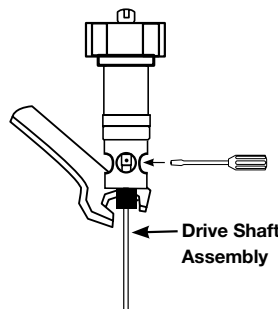

Figure 12
8. Insert a small screwdriver (or similar object) through the small hole on the shaft located inside the mechanical seal inspection port (see Figure 12).
9. While holding the small shaft still, loosen (counterclockwise) the pump drive shaft with large wrench. (see Figure 12).
5. Thread drive shaft onto bearing housing shaft (see Figure 12).